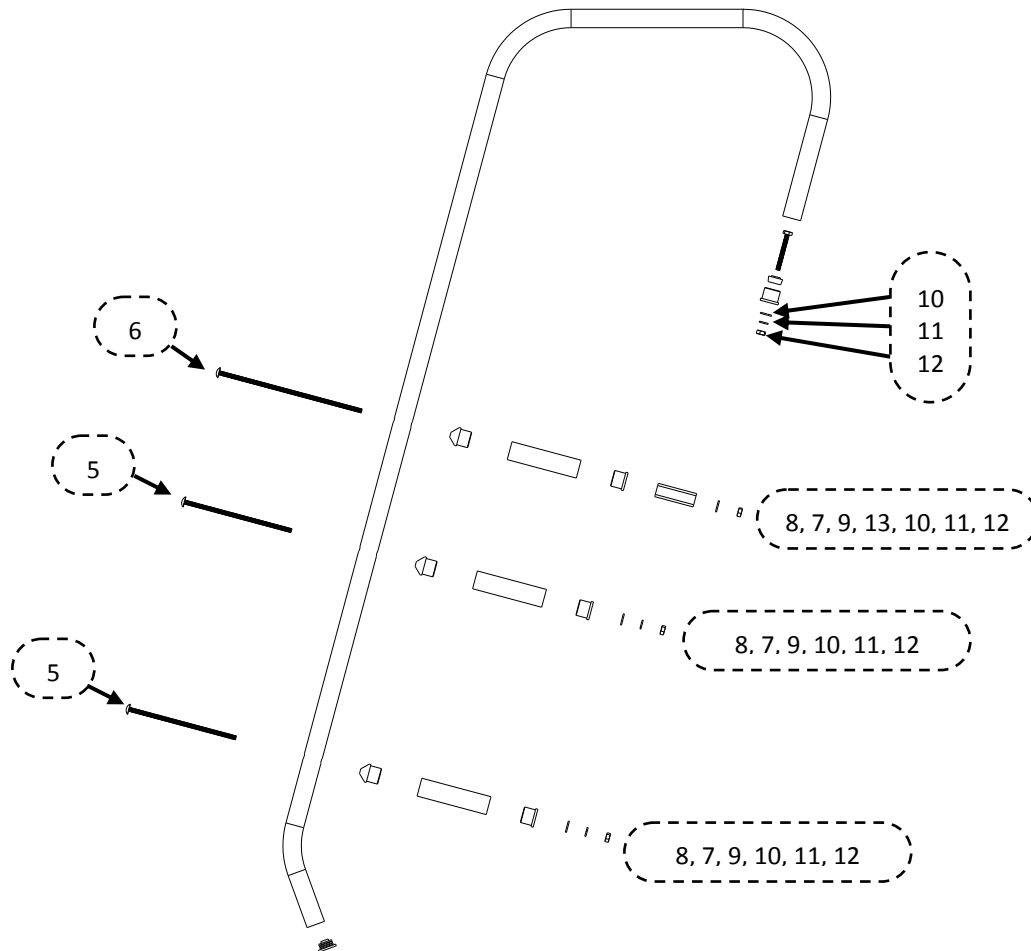
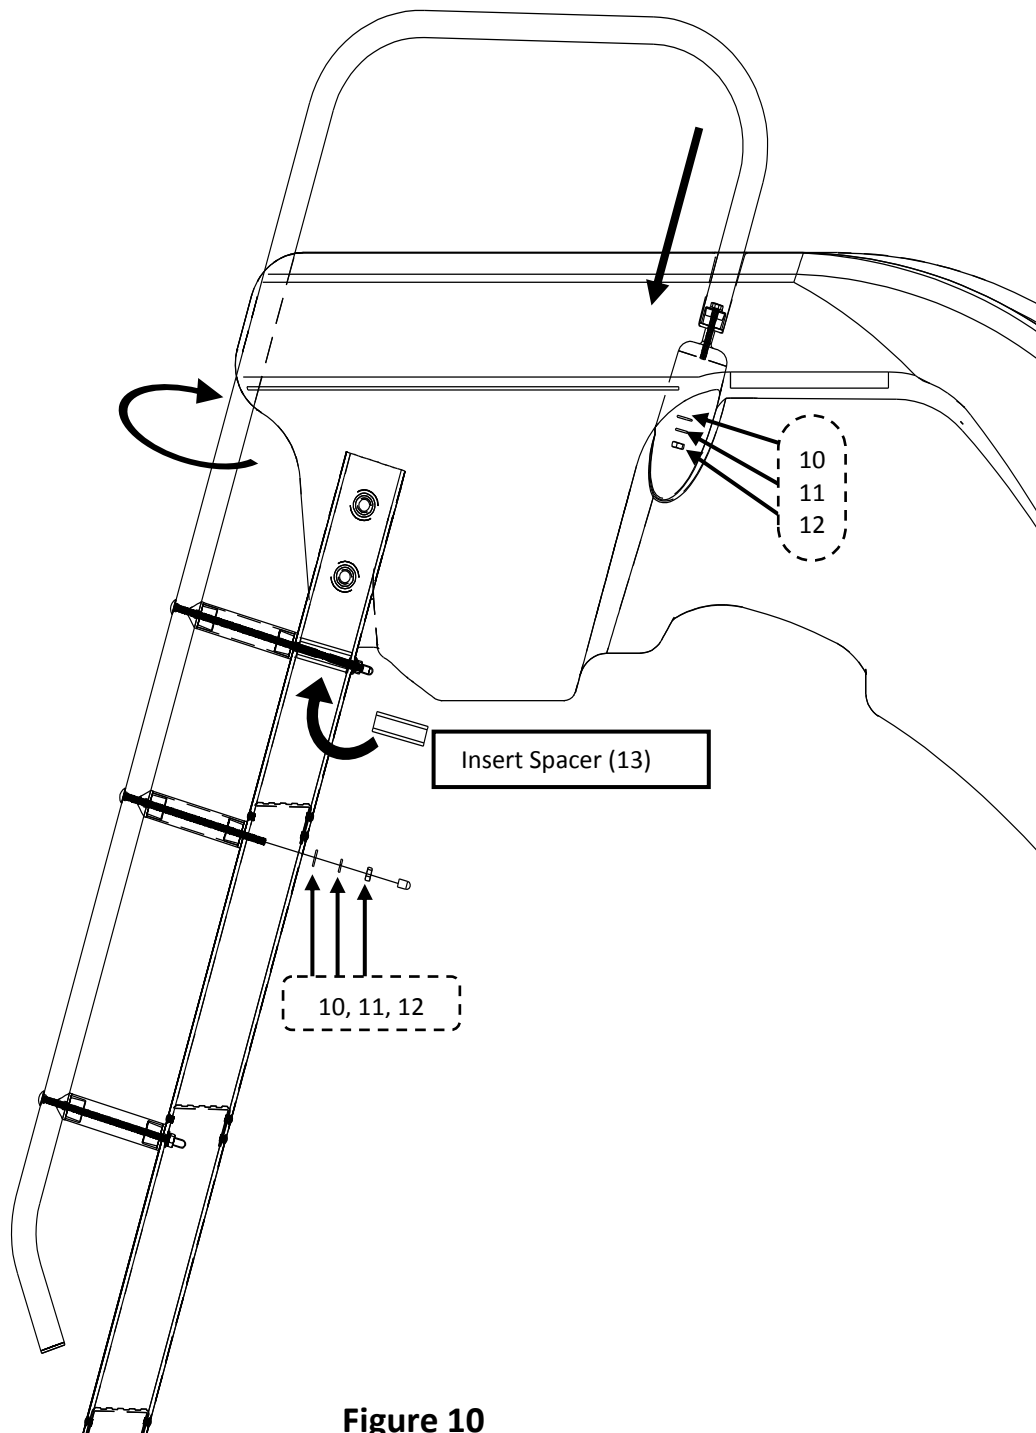

Figure 9
Figure 10
- 11) Disassemble each handrail as shown in Figure 9. Insert the two handrails into the holes on the top of the slide runway rails, and rotate so that the rails are resting in the grooves on the back side of the entrance section. Secure each handrail into the socket using a (#10) Flat Washer, a (#11) Lock Washer, and a (#12) Hex Nut. Use Loctite® 242 Thread Locking Compound on all handrail fasteners.
- 12) Starting with the top handrail spacer, align the top hole in the handrail with the top hole in the ladder side rail. Next, assemble the handrail spacer parts (#7), (#8) and (#9) in the order shown in Figure 9 and align it between the handrail and ladder top holes. Next, insert the (#6) 1/4-20 x 8" Carriage Bolt through the handrail and the handrail spacer parts. The (#13) Ladder spacer is to be placed in the inside channel of the ladder side rail such that the (#6) Carriage Bolt holds it in place after it is pushed completely through the ladder side rail, see Figure 10. Secure the (#6) Carriage bolt using a (#10) Flat Washer, a (#11) Lock Washer, and a (#12) Hex Nut in the order shown in Figure 9 and 10. Use Loctite® 242 Thread Locking Compound on all handrail fasteners.
shown in Figures 9 and 10. Use Loctite® 242 Thread Locking Compound on all handrail fasteners.